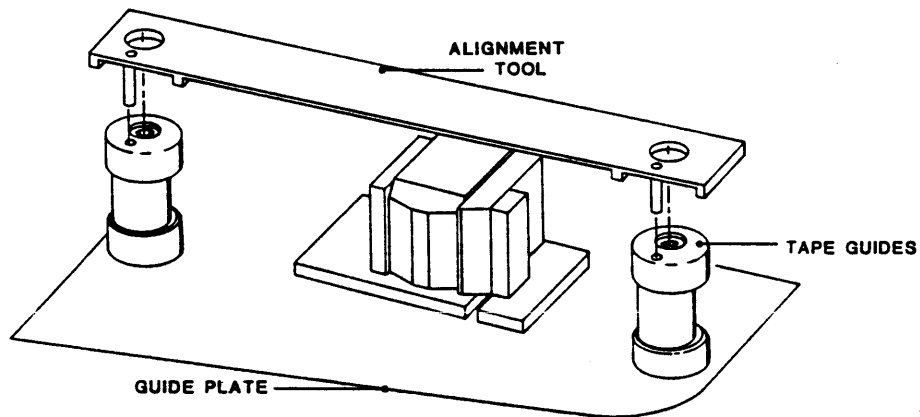

Figure 5-28. Tape Guide Alignment
5.3.34 TAPE GUIDE REPLACEMENT (Figure 5-28)